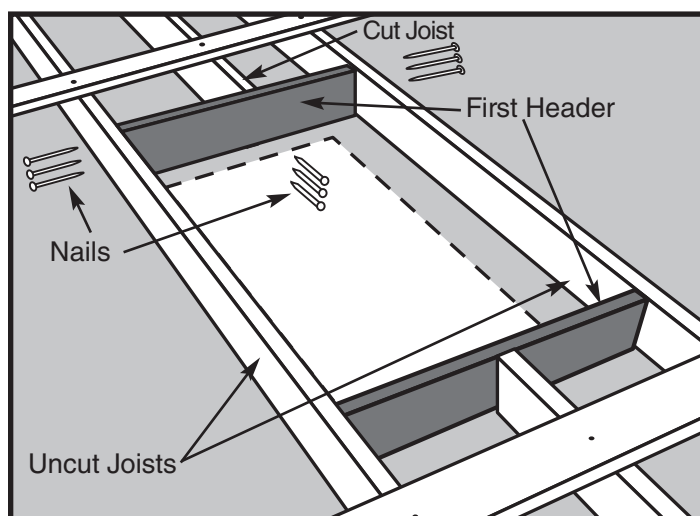

Figure 15
- STEP 3.** Place one of these headers against the end of the cut joist(s) (See Figure 15). It must fit snugly between the uncut joists. Hammer it into position if necessary; if it is more than 1/16" too long, trim it. If it is more than 1/16" too short, cut another piece.
- STEP 4.** Square the header to the uncut joist and nail the header to the end of the cut joist(s) with (3) 16d nails (See Figure 15).
- STEP 5.** Check header for squareness then drive (3) 16d nails through each joist into each end of the header (See Figure 15).